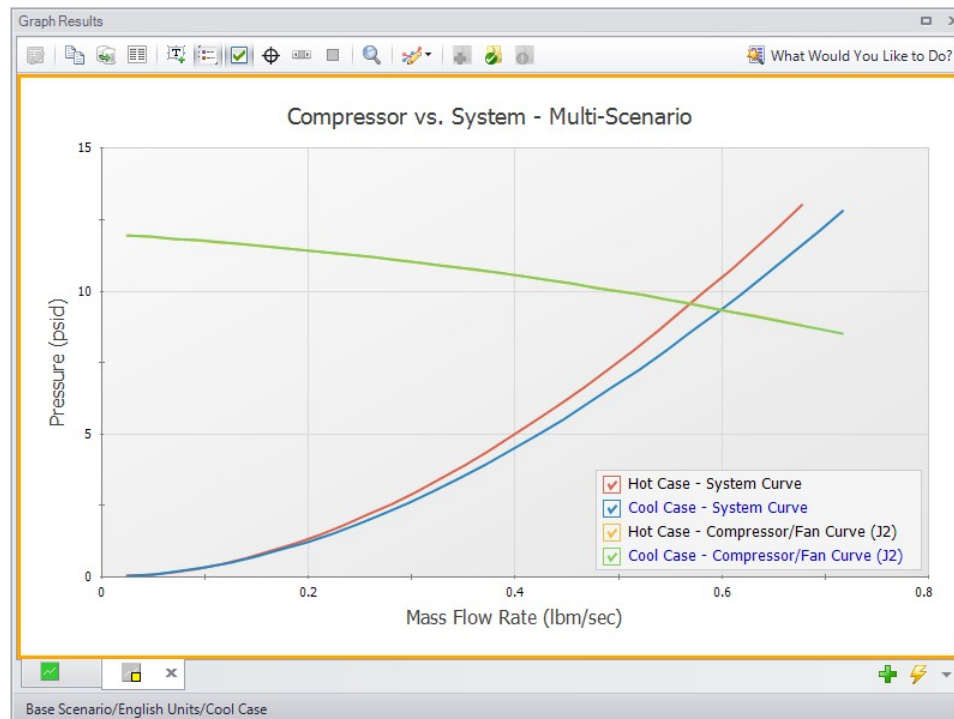

Figure 5: Multi-Scenario Compressor/Fan vs. System curve
7. The selected curves will now be displayed on a single graph, as is shown in Figure 5.